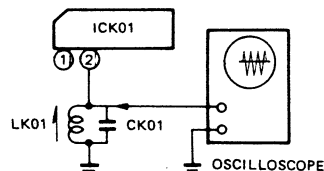

Figure 10. Equipment Connections
2. Connect an oscilloscope across CK01. (See figure 10.)